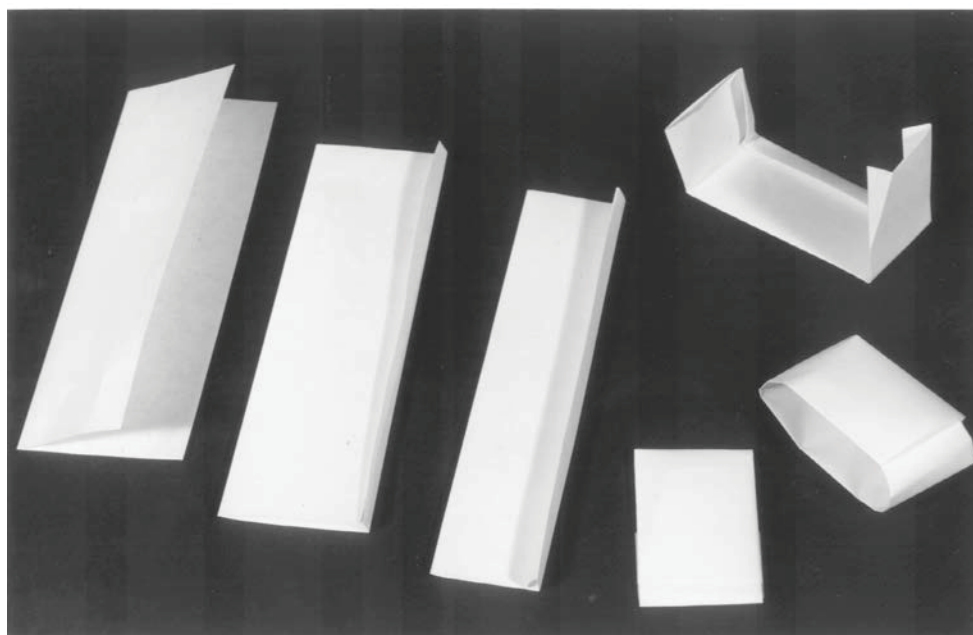

Figure 2—Pharmaceutical/Apothecary Packets for Trace Evidence Submission
- **Paper envelopes and paper bags are suitable for enclosing paper items and apothecary folds containing small, dry, or powdery material. (Figure 2).**